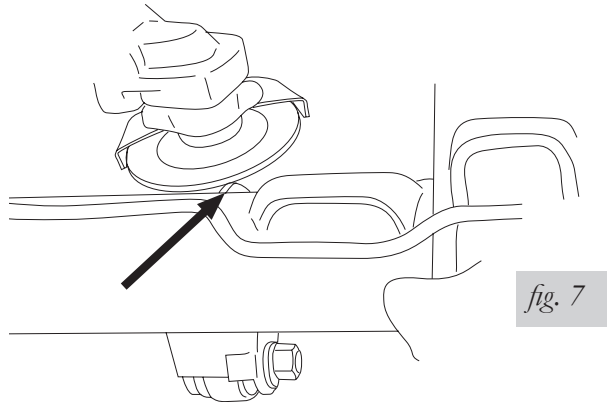

fig. 7
- Due to manufacturing tolerances, the shock mounting bracket may stop the lower bracket from sitting completely flat on the axle housing/jounce bumper pad. This may occur on only one side of the vehicle. In such instances, it will be necessary to use a grinder to trim the shock bracket until it is flat with the top of the axle housing (Figure 7).